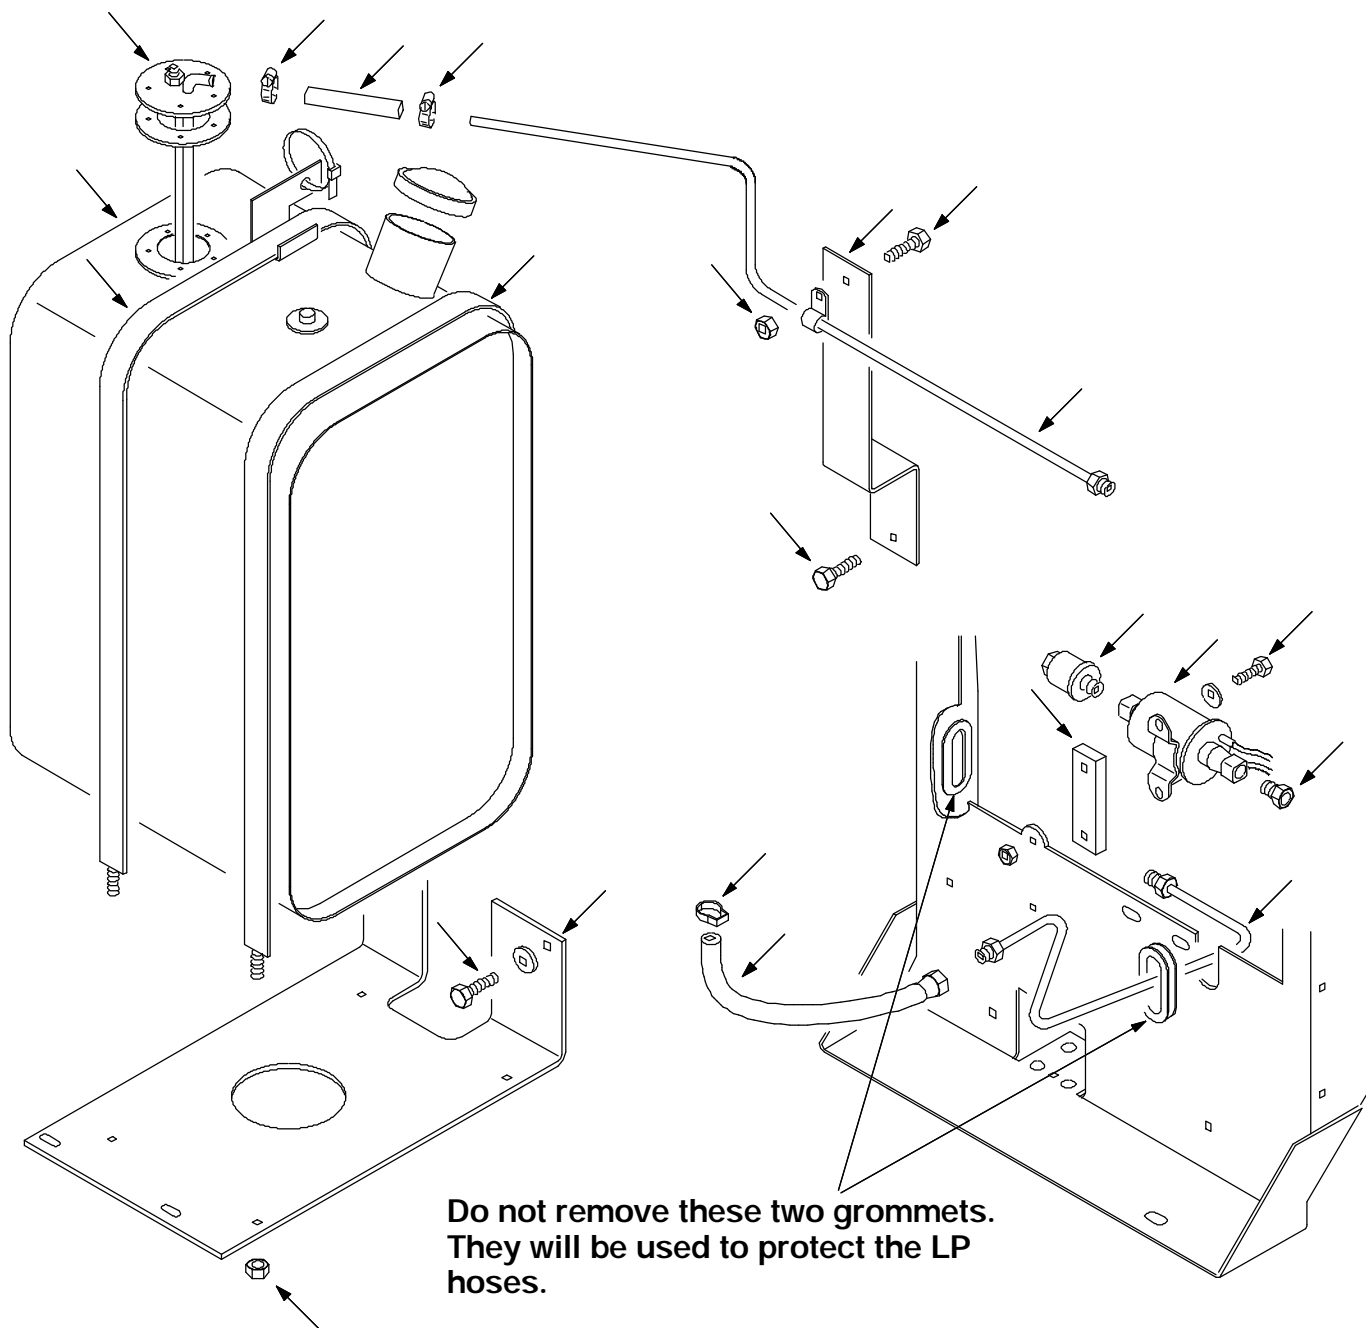

FIG. 1 - Gasoline Parts Removal Breakdown
(Refer to FIG. 1)
1. Drain fuel completely from system. (Refer to FIG. 1)
2. Disconnect existing fuel lines, fittings and fuel filters from fuel tank, carburetor and fuel pump and discard. (Refer to FIG. 1)
3. Remove all of the fuel lines and clamps from the machine. (Refer to FIG. 1)
4. Remove existing fuel tank, tank straps and tray from machine frame and discard. (Refer to FIG. 1)
5. Remove existing fuel pump from machine frame and discard. (Refer to FIG. 1)
6. Remove all of the remaining gasoline related parts. Use FIG. 1 as a reference for parts removal. (Refer to FIG. 1)